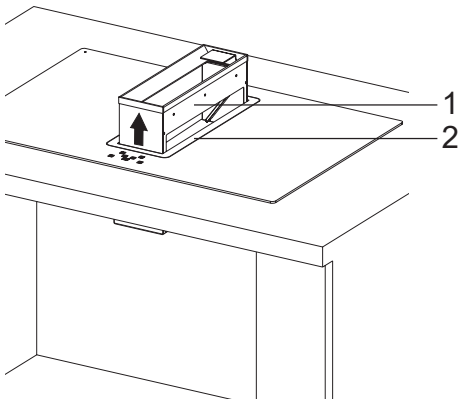

Fig. 14
13. To retain water and solid particles, the hood box has a slot inside (Fig. 14/2).
Within the device slot, pull it up (Fig. 14).